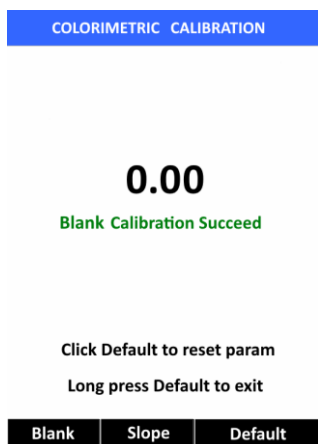

Figure 30
8. "Blank calibration succeeds" will be displayed if blank calibration completed (Figure 30).